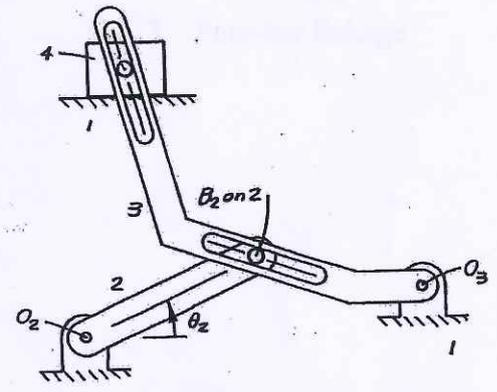

Figure 1 Crank-rocker-slider
1. Figure 1 shows a crank-rocker-slider mechanism. (a) Draw the corresponding specified kinematic chain. (b) Identify the link and joint types. (c) Identify the mobility number. (d) Calculate its degrees of freedom. (15%)